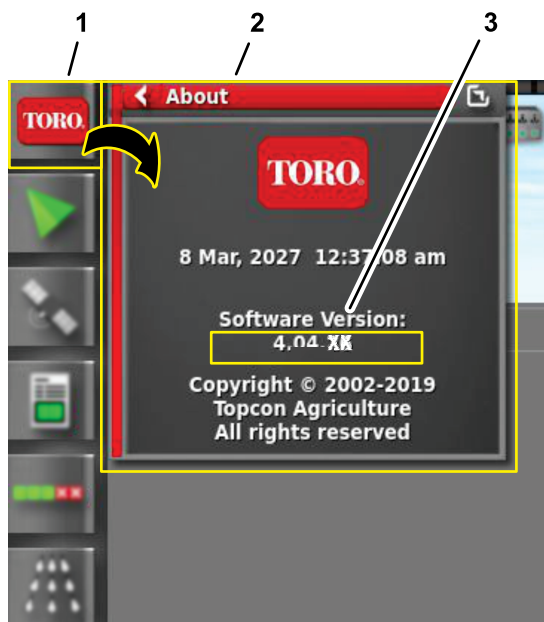

Figure 13
2. Press the ABOUT (Toro) icon at the upper left corner of the control console (Figure 13).